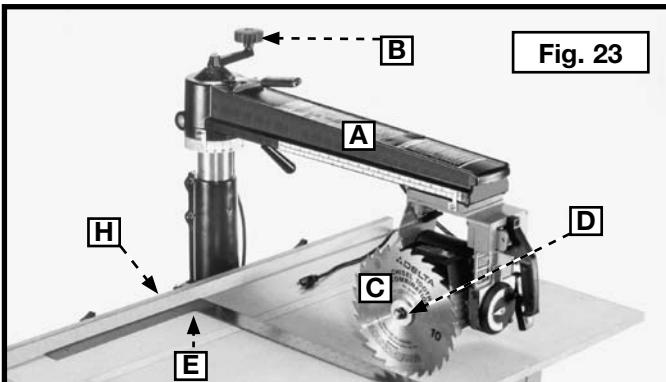

Fig. 23
- Raise the track arm (A) Fig. 23 by turning the elevating handle (B) until you can attach the blade (C) on the motor shaft. Tighten the arbor nut (D) using the supplied wrenches.
- Place a framing square (E) Fig. 23 against the fence (H). Lower the track arm (A) Fig. 23 until the blade clears the table surface.